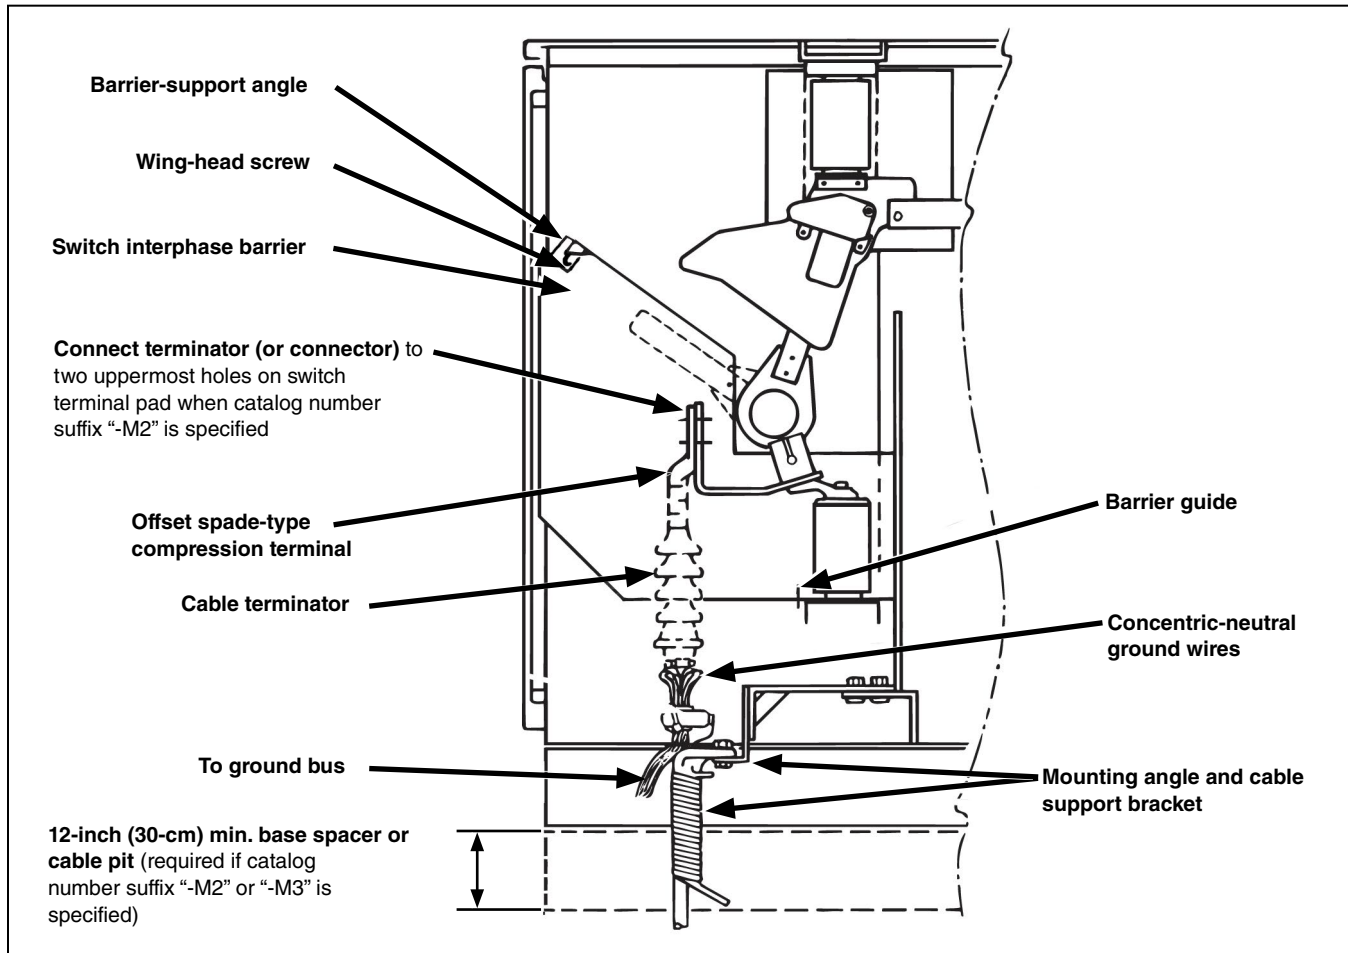

Figure 5. Side view of the switch showing the interphase barrier attachment points, terminal-pad connections, and optional cable guides.
- (a) Remove the tie wraps that secure the wing-head screws for shipment. The screw will remain attached to the barrier, which is supported at the switch frame by the barrier guide. See Figure 5.
Using the hardware furnished, attach the mounting angles (if packed separately) to the tabs provided on the sidewalls of the compartments and attach the cable-support brackets to the angles. See Figure 5.
Switch terminal pads are furnished with three mounting holes. In general, cable terminators may be connected to the two lower holes in the switch terminal pads. However, if the pad-mounted gear includes optional cable guides for switch terminals, cable terminators must be connected to the two uppermost holes in the switch terminal pads. See Figure 5 on page 14.